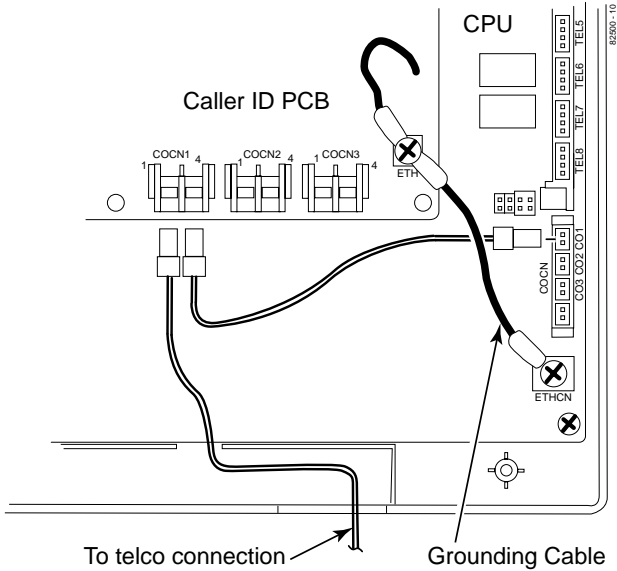

Figure 4-12 CONNECTING CALLER ID
Connecting Caller ID (Figure 4-12)
4. For each trunk, run one pair of wires from the COCN1 connector labeled "1" on the Caller ID PCB to a 625 modular jack, which then connects to the telco's RJ11C jacks using a standard line cord (Figure 4-12 on the following page).